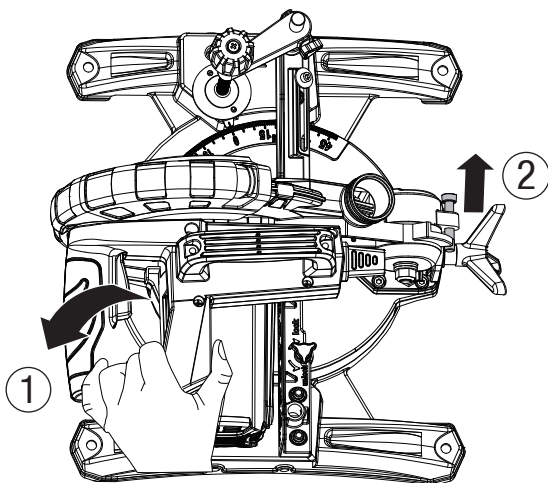

Figure 1
1. SAW HEAD RELEASE KNOB (SEE FIG. 1, 2)